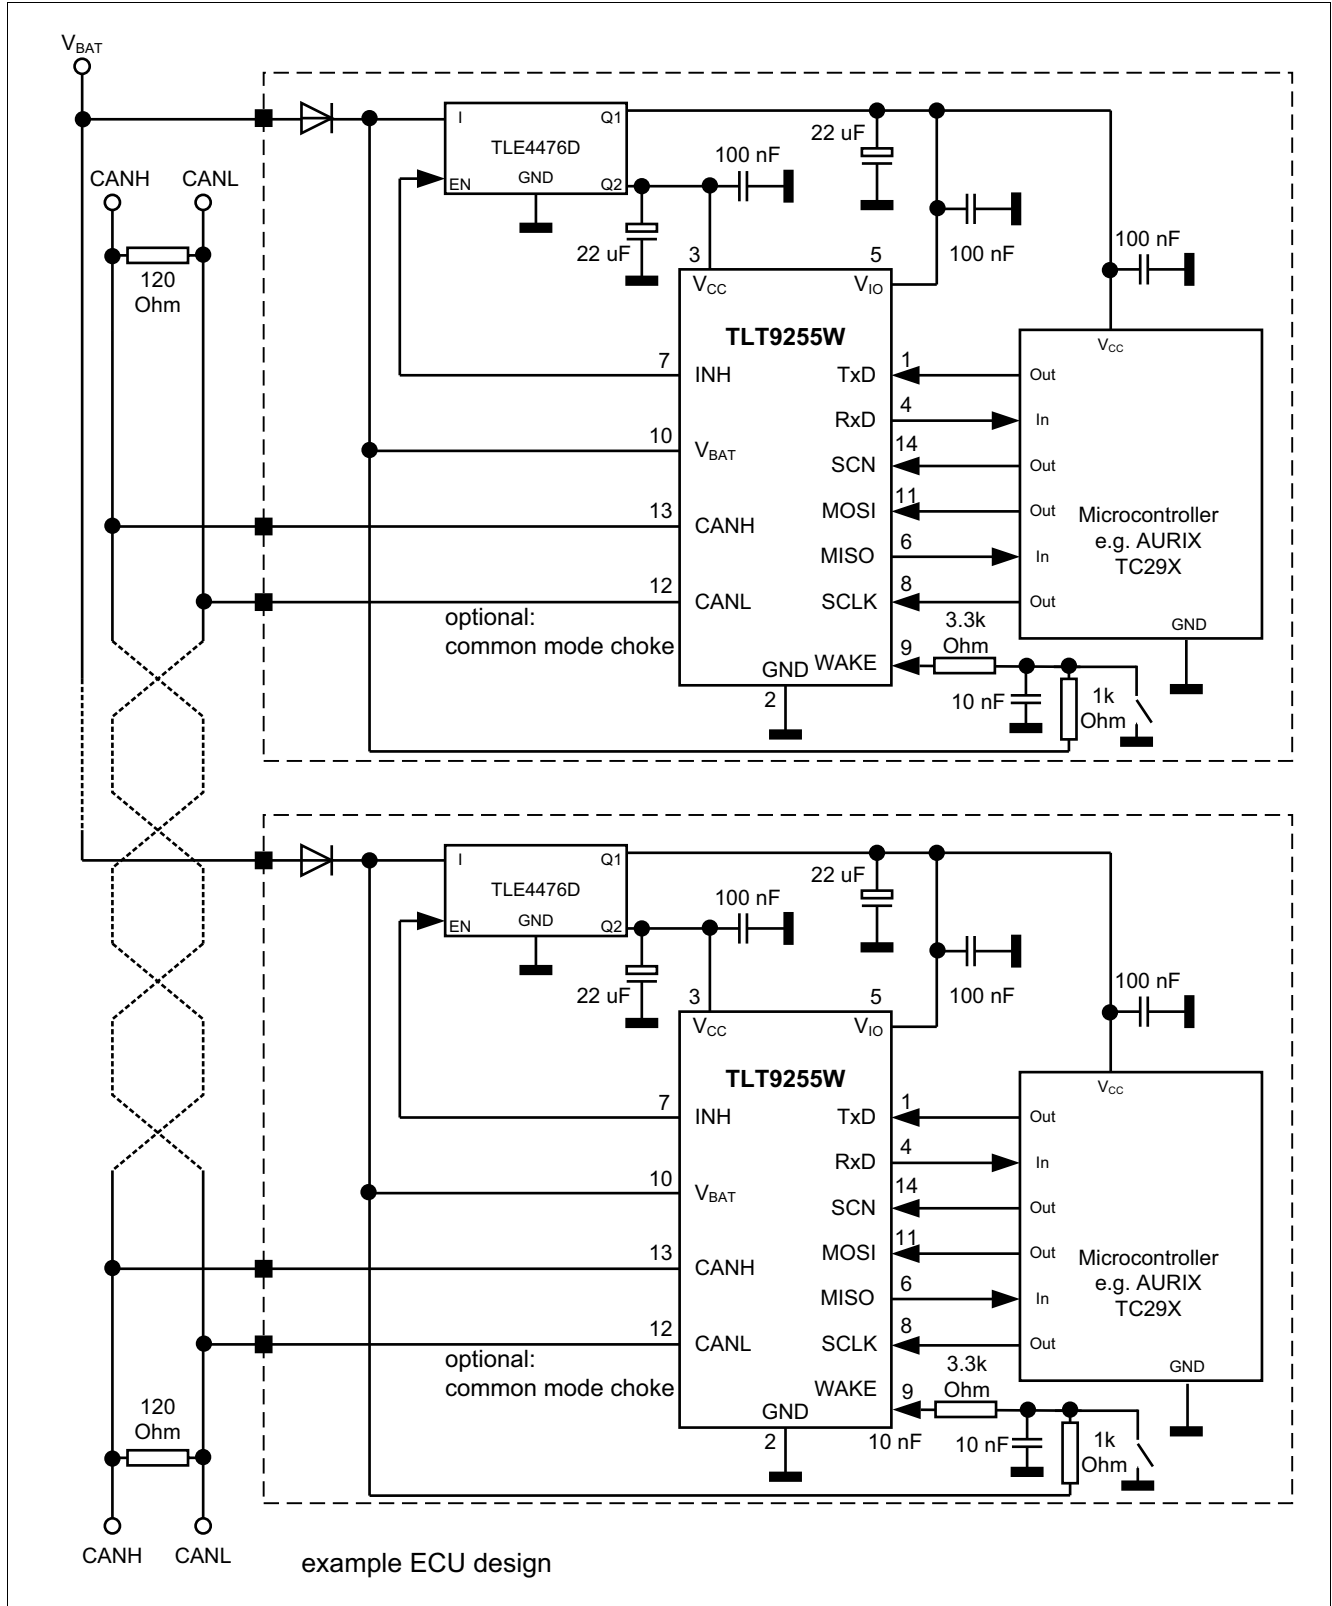

Figure 53 Application circuit
1) 10 nF capacitor and 3.3 kΩ resistor required (see Figure 53).
To adapt the digital input and output levels of the TLT9255W to the I/O levels of the microcontroller, connect the power supply pin V_{IO} to the microcontroller voltage supply (see Figure 53).